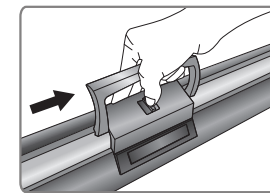

Figure 6
- Pull up the handle while using the thumb to release the tube lock as arrow indicates (Figure 6).